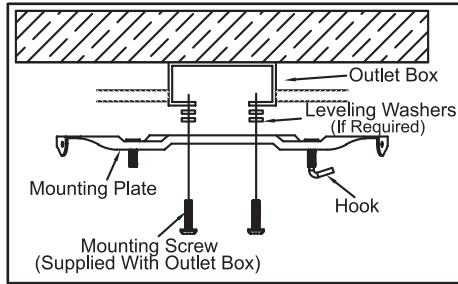

Figure 4
1. Securely attach the mounting plate to the outlet box using the two screws supplied with the outlet box (Figure 4). Pull the black, white and ground wires out of the outlet box and through the hole in the mounting plate and lay them to the side.
FOR BETTER FAN PERFORMANCE, MAKE SURE THE MOUNTING PLATE IS LEVEL. ADDITIONAL WASHERS (NOT INCLUDED) MAY BE NEEDED TO INSERT BETWEEN THE OUTLET BOX AND MOUNTING PLATE (FIGURE 4).